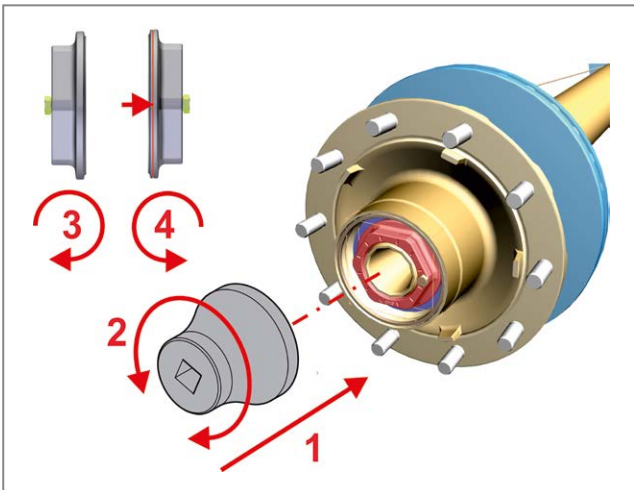

Fig. 7 - Loosen the axle nut
3. Using the SAF axle nut socket (part number 04 434 3891 00) -item 2-, ► *Fig. 7*, remove the axle nut by unscrewing the axle stub end.